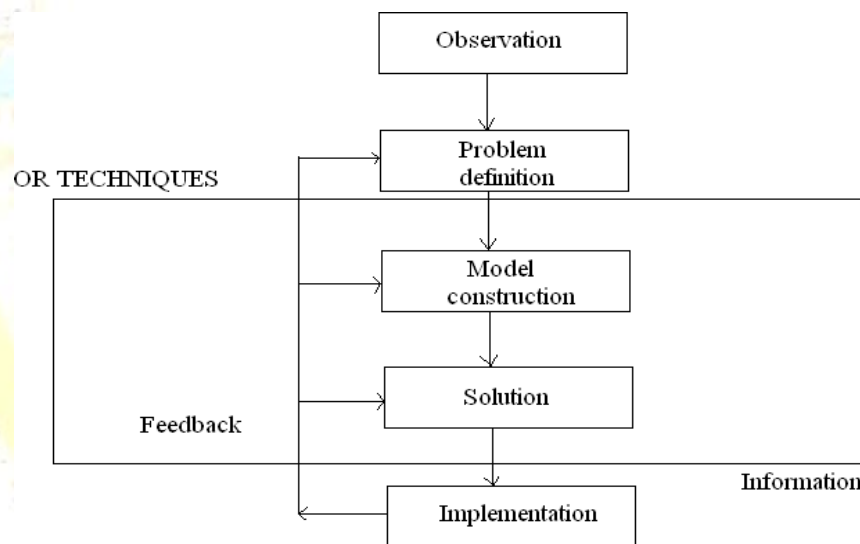

FIGURE 1
OR encompasses a logical systematic approach to problem solving. This approach to problem solving as shown in fig. 1 follows a generally recognized ordered set or steps: (1) observation, (2) definition of the problems, (3) model construction, (4) model solution, and (5) implementation of solution results.